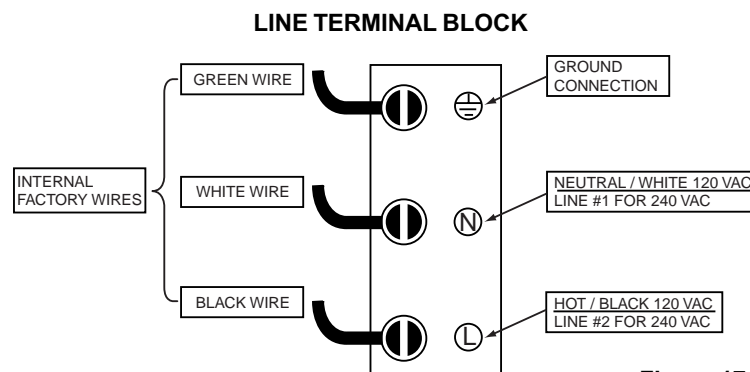

Figure 17.
- When connecting the power supply to the “Line Terminal Block” inside the junction box, follow the polarity as shown below. Connecting to 120 VAC, make sure that you connect the wire to the terminal (L), the neutral wire is connected to the neutral terminal (N) and the ground is connected to the ground terminal (GND); see below, Figure 17.